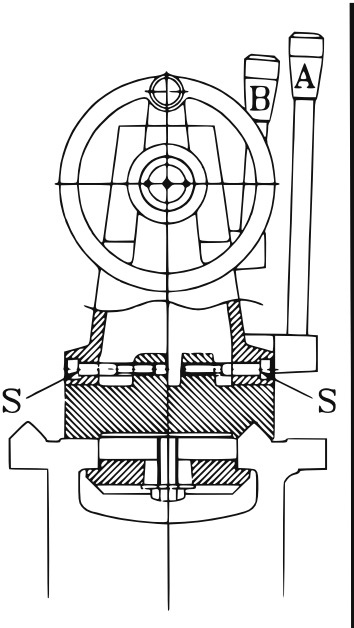

Figure 4-12: Tailstock set-over screws (S)
- 2 Adjust the screws (S) at each side of the base to move the tailstock across the base.
- 3 Read the amount of set-over from the datum mark (C) on the tailstock end face (see Figure 4-12).